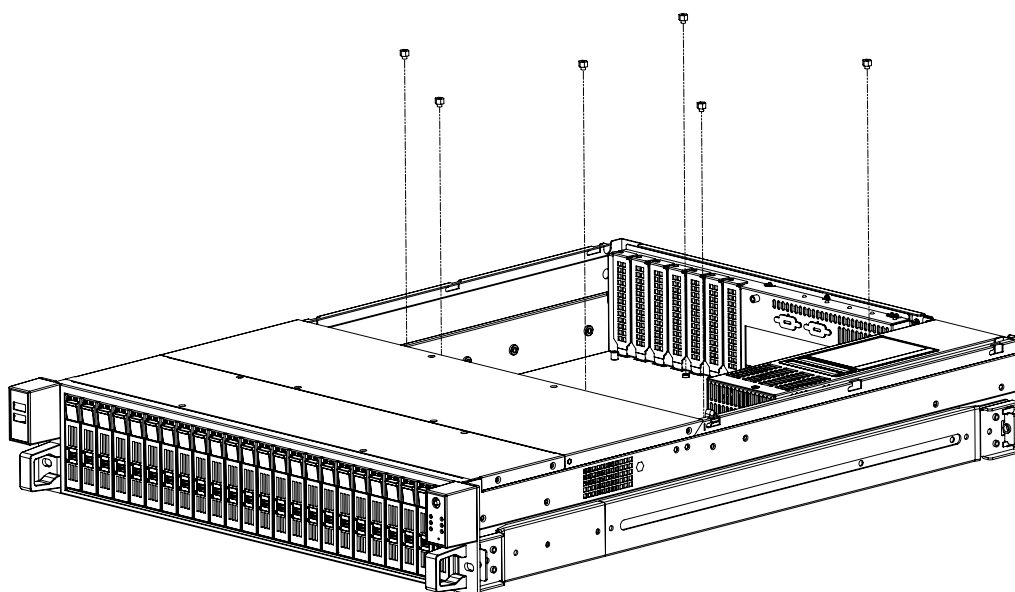

Figure 2.3 Fastening the copper stubs/ 固定铜柱 / 固定铜柱
1. Located inside the rear top cover of the HPC-8224SE SKU is a yellow label (see Figure 2.2). This label shows the plastic posts where a copper stub should be attached to install an EATX/ATX/micro ATX motherboard. The copper stubs are provided in the accessory box (see Figure 2.3). Affix the copper stubs in the correct location and then rotate them counterclockwise to fasten them to the chassis.
1. 在 SE 机种的后顶盖内侧有一个黄色贴纸（如图 2.2 所示）。此贴纸标示了用于安装特定 EATX/ATX/MicroATX 母板的铜柱的位置。用户可以在附件盒里找到铜柱（如图 2.3 所示）。将铜柱锁入相应的位置，然后沿逆时针方向旋转将它固定在机箱上。